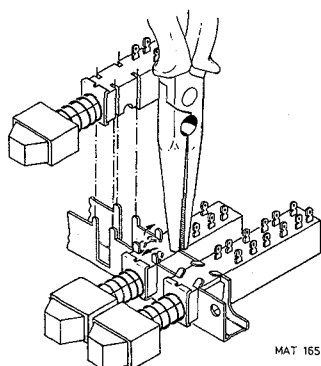

Fig. 3.5. Replacing a switch-segment of a push-button set
To remove a push-button switch, the hexagon screws that secure it to the front panel must be removed. To replace one switch-section of a push-button set, refer to fig. 3.5.
- Straighten the 4 retaining lugs of the relevant switch as shown in fig. 3.5.